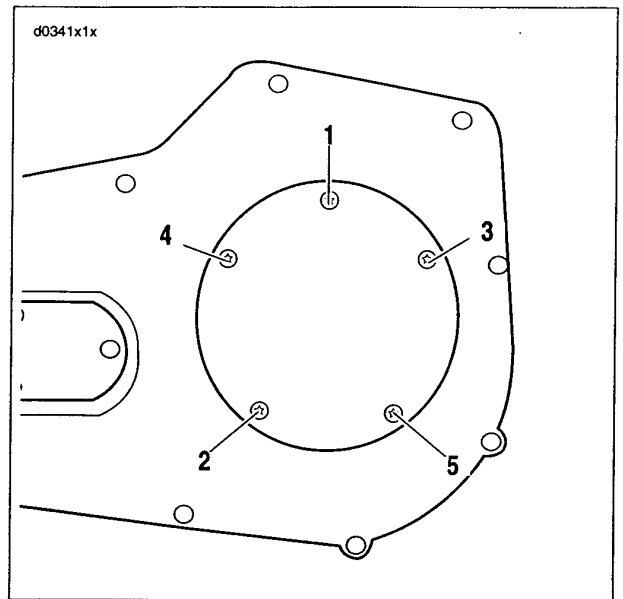

Figure 1-27. Clutch Cover Torque Sequence
- d. Attach clutch inspection cover using five TORX screws with captive washers. Tighten to 84-108 in-lbs (9.5-12.2 Nm). Follow torque sequence shown in Figure 1-27.